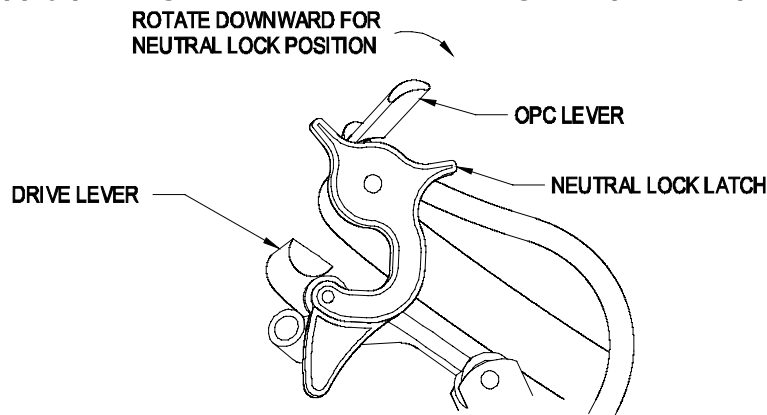
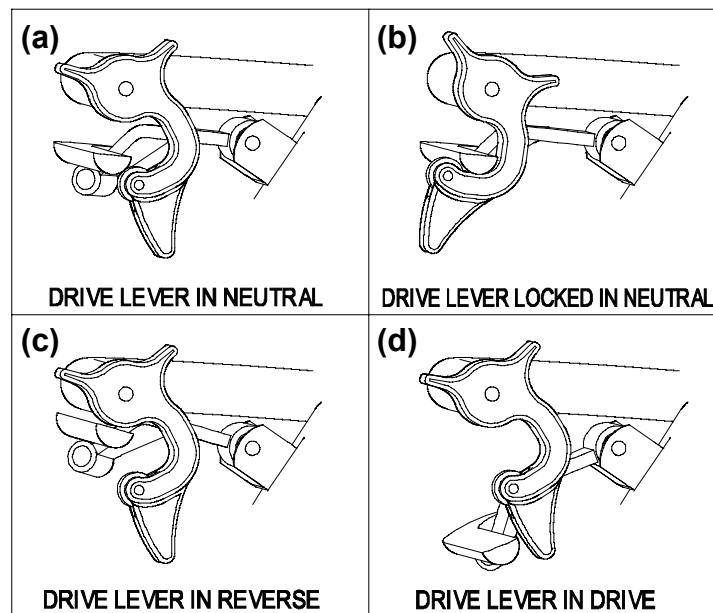

FIGURE 8
FIGURE 9
4.1.2 Operator Presence Control (OPC) Levers: Located on the upper handle assembly directly above the handle grips (See Figure 8). **When these levers are depressed, the OPC system senses that the operator is in the normal operator's position. When the levers are released, the OPC system senses that the operator has moved from the normal operating position and will kill the engine if either the speed control lever is *not in the neutral* position or the *PTO is engaged*.**
4.1.4 Drive Levers: Located on each side of the upper handle assembly directly below the handle grips (See Figure 8). These levers individually control the speed and direction of each drive wheel. When the speed control lever is moved out of the neutral position and the neutral lock latches are moved into the drive position, as shown in Figure 9, and the drive levers are released, the drive wheels are engaged in the forward direction.
- 4.1.5 Neutral Lock Latch: Located at the end of the handles. The purpose of these latches is to allow the operator to lock the drive levers in a "neutral" position where neither of the drive wheels are engaged in either a forward or reverse direction. (See Figure 8).
To lock the drive levers in “**neutral lock**”, squeeze the drive levers to the “neutral” position See Figure 9 (a). (Do Not squeeze at the drive levers all the way back as this will cause the drive wheels to go into the full reverse direction). Place thumbs on the inner thumb lobe of the neutral lock latches and rotate them to the “neutral lock” position. See Figure 9 (b). Release the drive levers.
To place the drive levers in the “**drive**” position, slightly squeeze the drive levers while placing thumbs on the outer thumb lobe of the neutral lock latches (or the index finger on the front lobe) and rotate them from under the drive levers. **Slowly** and **carefully** release the drive levers. See Figure 9 (d).
To place the drive levers in the “reverse” position, squeeze the drive levers past the neutral position. See Figure 9 (c).
For reverse: Squeeze both drive levers into the reverse position. See Figure 9 (c).
- 4.3.6 To Stop: Squeeze drive levers back to the “neutral” position. See Figure 9 (a) Move neutral lock latches into the “neutral lock” position. See Figure 9 (b) and release drive levers. Move the speed control lever to the neutral position.